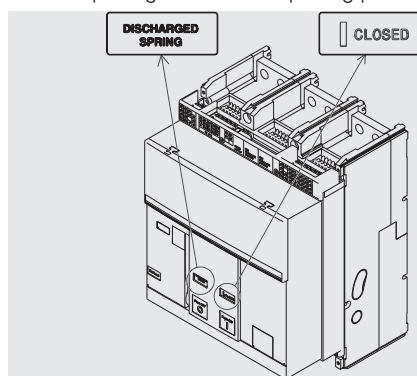

Figure 45
5. Check that the circuit-breaker is closed (open/closed indicator "I - CLOSED"), and check that the springs are discharged (spring signalling device "white - DISCHARGED SPRING") as indicated in Figure 45.